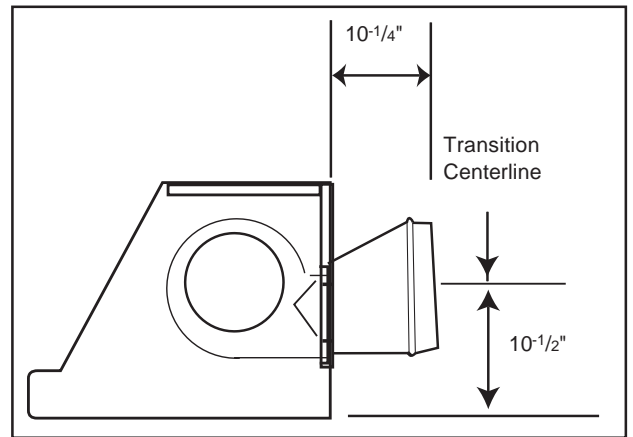

Figure 6
The transition supplied with the hood connects to standard 10-inch round duct. Figure 6 shows the transition connected for horizontal discharge.
- Before hanging hood, install transition per Figure 6. Fasten transition with two (2) screws (#8 x 3/8 sheet metal, supplied) and tape per all applicable codes.